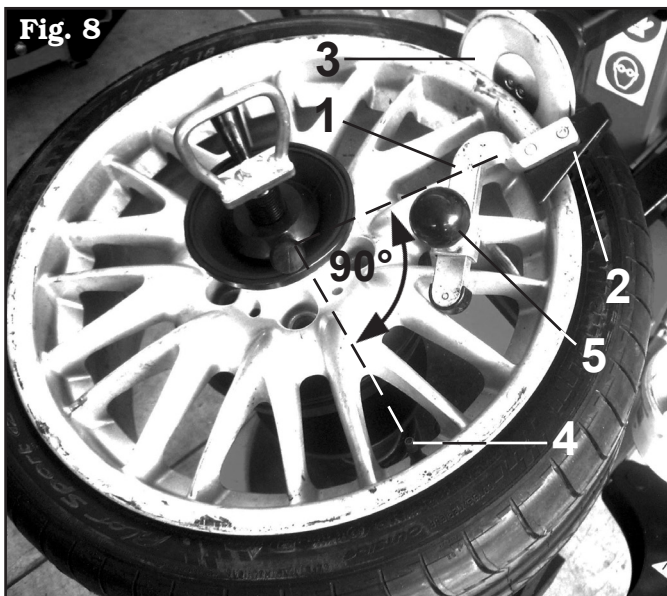

Fig. 8
2 - Insert the Bead depressor (# 710090730 for G1000A67 or # 710190830 for G1000A124) (Fig. 8 ref. 1) on the rim and the main block (Fig. 8 ref. 2) on its edge as shown in figure. Place the main block (Fig. 8 ref. 2) immediately after the bead breaking roll (Fig. 8 ref. 3) and at about 90° from the inflation valve (Fig. 8 ref. 4).
UTILIZING THE UPPER KNOB (FIG. 8 REF. 5) ADJUST THE LENGTH OF THE SUPPORT (FIG. 8 REF. 1) SO THAT IT PERFECTLY ADAPTS TO THE DIAMETER OF THE RIM ASSEMBLED ON THE TYRE CHANGING MACHINE.